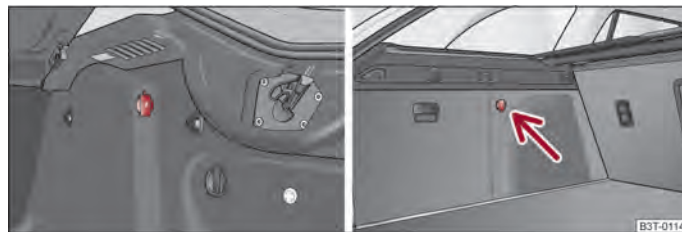

Fig. 91 Luggage compartment: Power socket/luggage compartment: Power socket (Combi)
- Open the cover of the power socket ⇒ fig. 91.